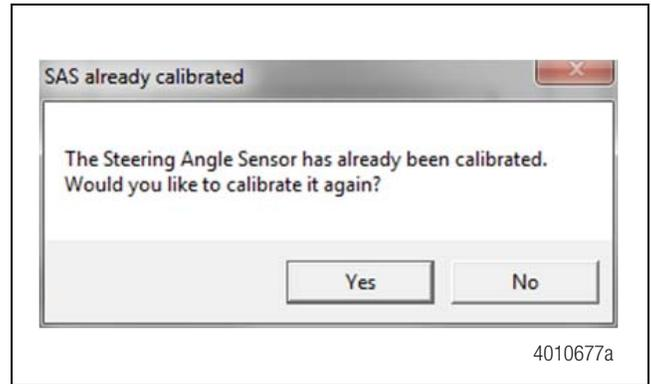
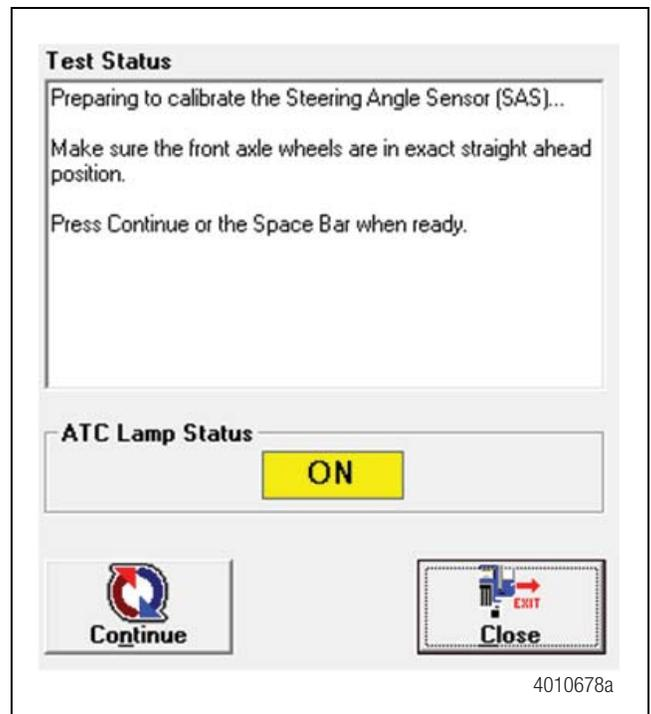

Figure 9.9
Figure 9.10
**NOTE:** If SAS has NOT been replaced but vehicle has had an alignment performed or other steering components have been replaced, it is necessary to recalibrate SAS regardless of current calibration. Figure 9.9 may appear if unit has had SAS calibrate at some point. Click on Yes to recalibrate SAS. Figure 9.10.
**NOTE:** Depending on your version of TOOLBOX™ Software, the message in Figure 9.9 may appear. If it does, always click “Yes” to recalibrate the Steering Angle Sensor in order to complete the ESC Initialization.